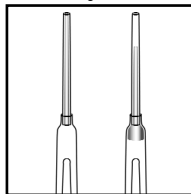

Figure 4
6. **Required for R-8012D only:** Pull the VACUette into a vertical position. A small portion of the collected sample should fall into the sleeve of the VACUette tip (fig. 4).